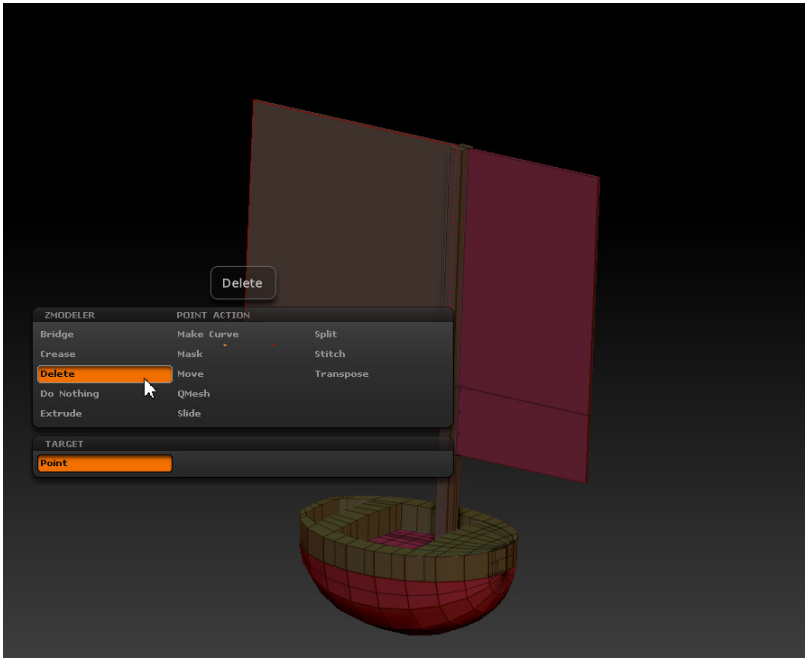

Figure 3-128 Choosing the Delete option
4. Hover the cursor on the point of the sailing cloth and right-click; the **ZMODELER** window is displayed. Next, choose the **Delete** option from the **POINT ACTION** area, as shown in Figure 3-128.